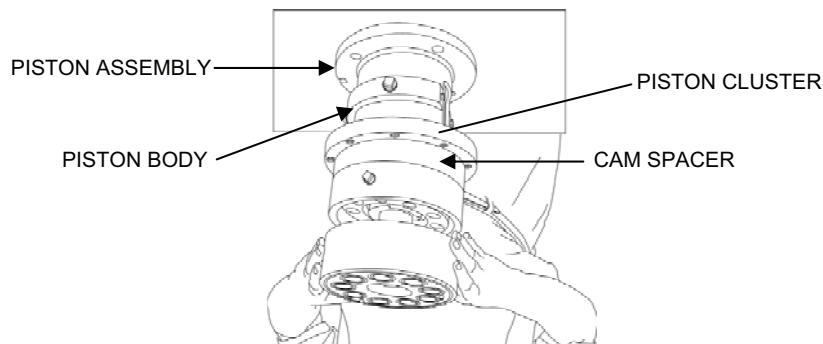

Figure 9. Piston Body Assembly Installation.
- b. Apply glycerin to the body bearing and install the piston body on the cam spacer making sure to line up the pencil scribe marks (see Figure 9).